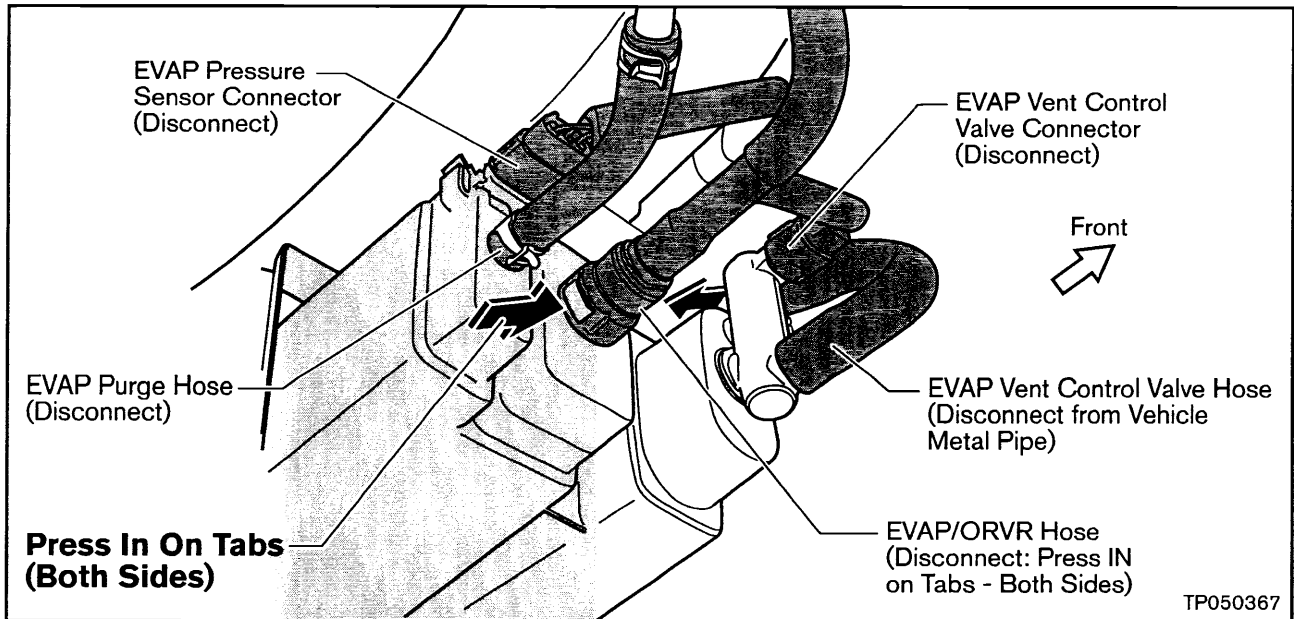

Figure 19
2. Disconnect the following from the EVAP Canister (refer to Figure 19):